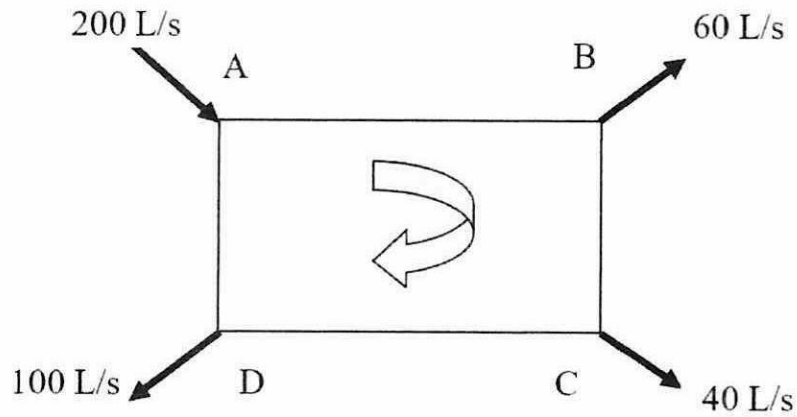

Figure Q4.1 This figure shows the closed loop for the water distribution.
(ii) For the closed loop as shown in **Figure Q4.1** with $K = 500$, find discharge in all pipes. Limit to **TWO (2)** iterations.